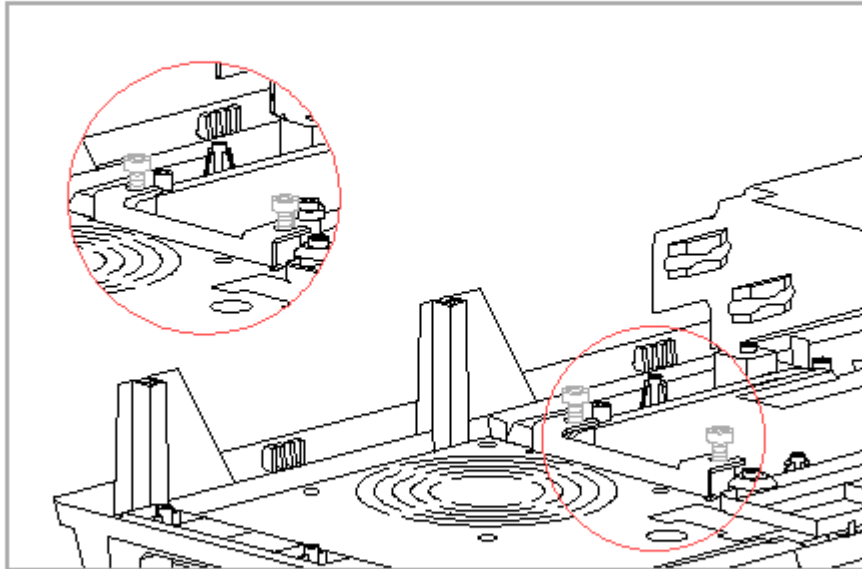

Figure 9-14. Loosening the Power Supply Bracket Screws
5. Loosen, but do not remove, the two screws that attach the slotted bracket of the power supply to the top cover (Figure 9-14).